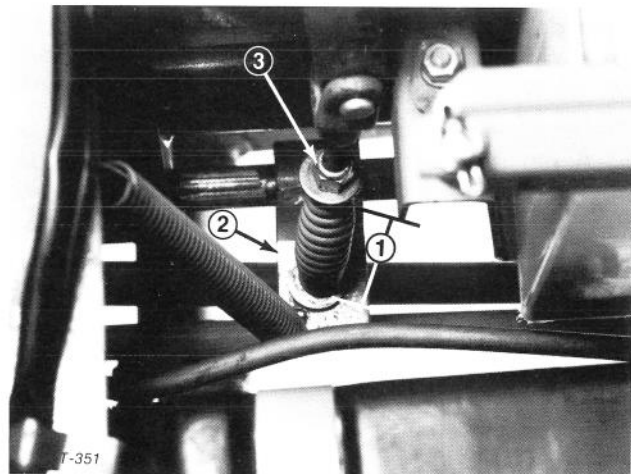

Figure 45
- 3. Measure length of PTO spring between flat-washers (Fig. 45). There should be a spring length of 3-3/16 inches (81 mm).
- 4. To adjust, hold head of adjusting screw with wrench (under PTO actuating arm) and turn locknut (Fig. 45).